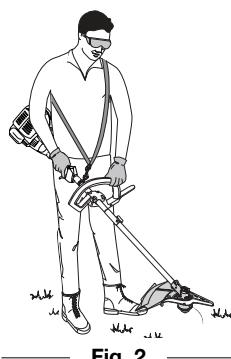

Fig. 2
5. While holding the unit in the operating position (Fig. 2), move the Cub handle to the location that provides you the best grip.